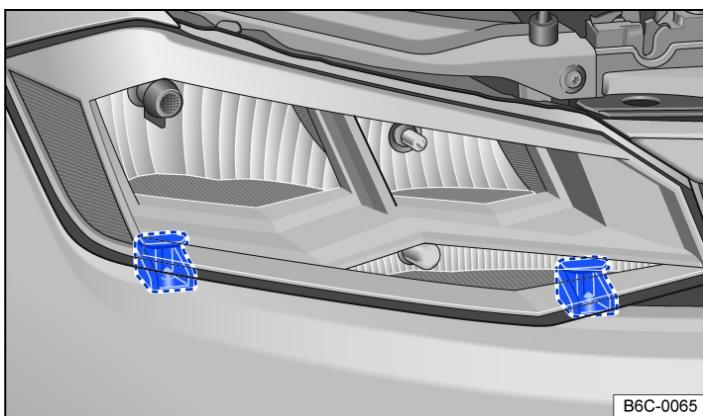

Fig. 2 Guides for installing the right headlight.
- Push the headlight into the vehicle until it reaches the middle upper stop → Fig. 1 . Make sure that the headlight engages properly into the lower guides → Fig. 2, → .